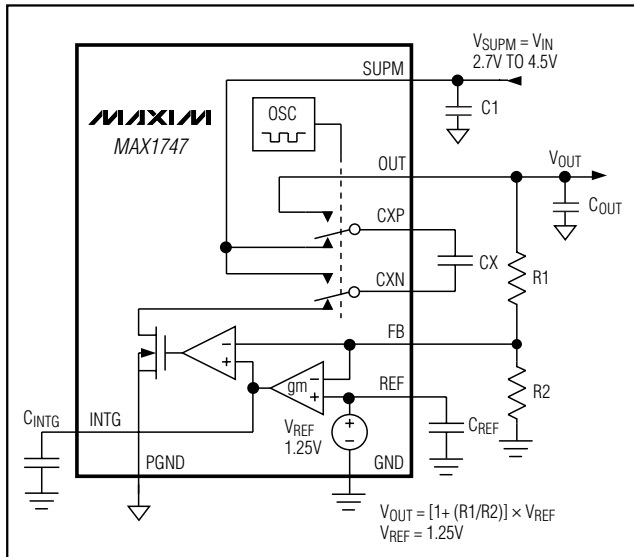

Figure 2. Main Charge-Pump Block Diagram
During the first half-cycle, the MAX1747 charges the flying capacitor (CX) by connecting it between the supply voltage (VSUPM) and ground (Figure 2). This initial charge is controlled by the variable N-channel on-resistance. During the second half-cycle, the MAX1747 level shifts the flying capacitor by stacking the voltage